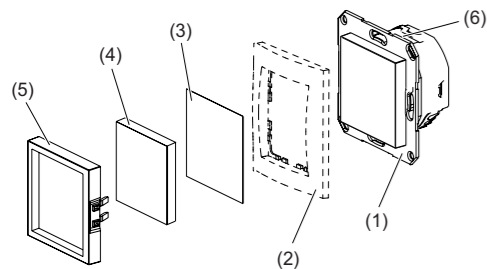
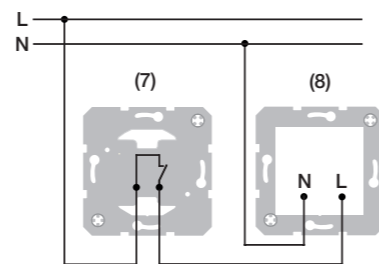

Figure 1
Figure 2: Connection example of LED signal light, white lighting
- Wire LED signal light with Off/changeover switch (7) (Figure 2).
- Install insert (8) into a wall box. The connecting terminals must be at the bottom.
- Complete the LED signal light (Figure 1)
- Position the frame (2) over the supporting ring of the insert (1)
- Place a foil (3) under the cover if necessary
- Push the cover (4) onto the insert until it engages
- Snap on centre plate (5)